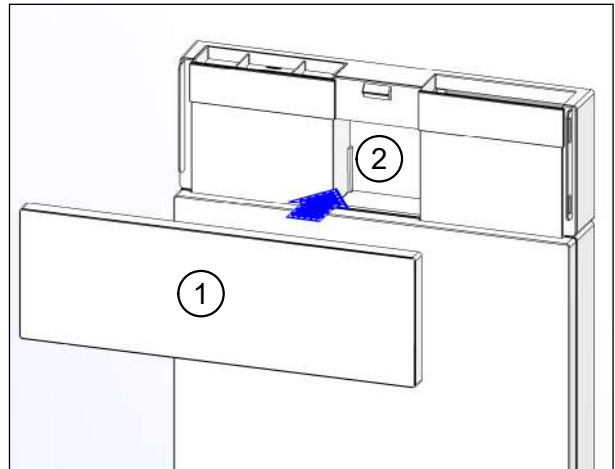

Fig. 54: Attaching the cover to the duct adapter
- ▶ Place the cover (item 1 in Fig. 54) on the duct adapter (item 2 in Fig. 54).